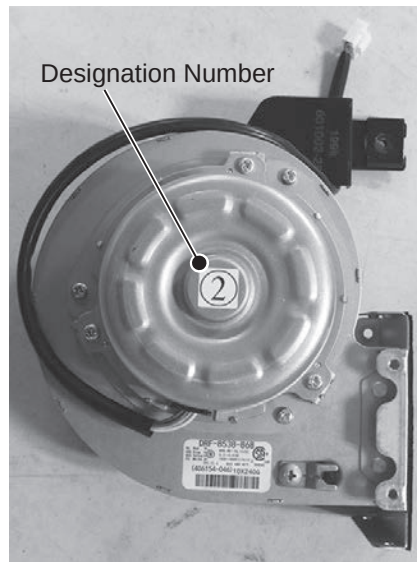

Figure 105 - Fan designation number
IMPORTANT! Note the fan designation number provided on the label located in the center of both the old and new fan assemblies. This information will be used later to properly configure the water heater. See Figure 105.
- 43** Press the "**SETTING**" button and adjust the value of **C04** using the "**UP**" and "**DOWN**" buttons to match the fan designation number on the new fan assembly recorded in **Step 24**. See Figure 105 as reference. The value will flash.